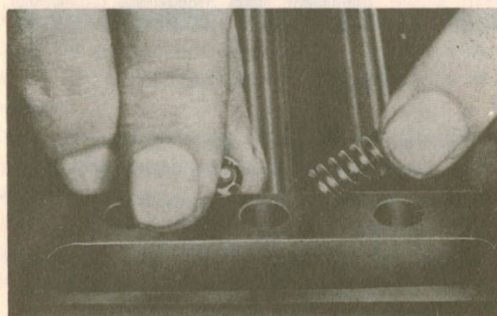

Fig. 3-32. Fitting interlock balls and springs
9. Place the interlock balls and springs in position, Fig. 3-32. Fit the transmission cover. Check that all gears engage and disengage easily.